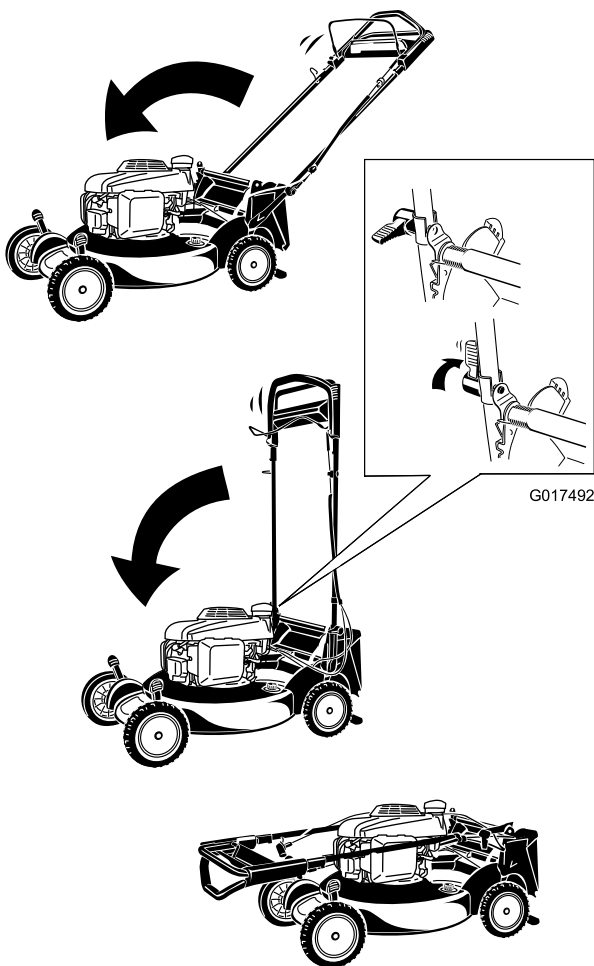

Figure 38
1. Rotate the handle forward (Figure 38).